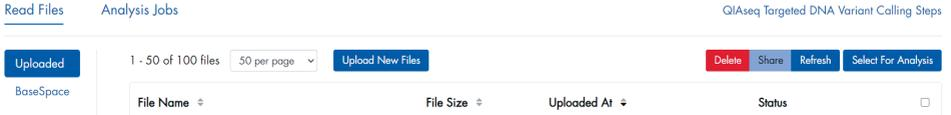

Figure 9. File Upload tab of the QIAseq Targeted DNA Pro Data Analysis Pipeline.
4. In the **Read Files** tab, select BaseSpace to upload files from BaseSpace or select **Uploaded > Upload New Files** to upload files from your local drive (Figure 9).